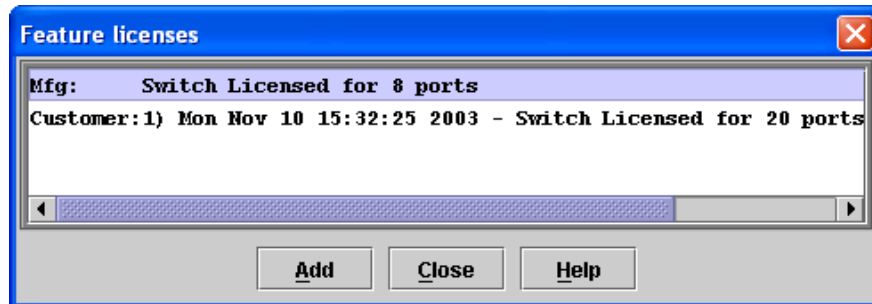

Figure 4-13. Features License Key Dialog
4. Open the Switch Menu and select **Features** to open the Feature Licenses dialog shown in Figure 4-13.